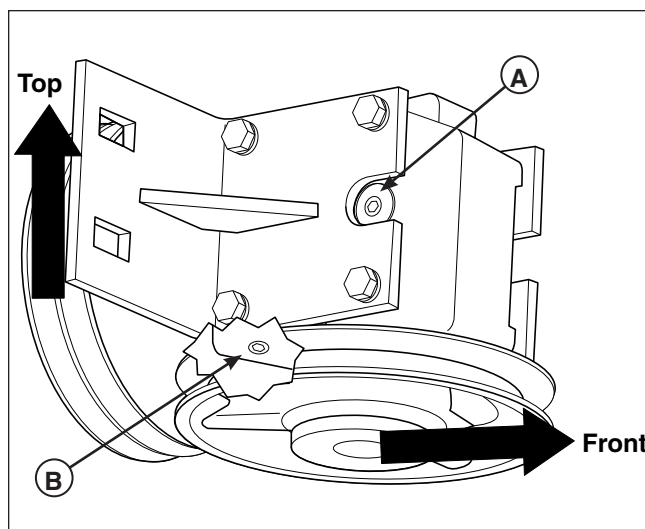

Figure 49. Gearbox Oil Level
1. Remove fill plug (A, Figure 49) on gearbox.